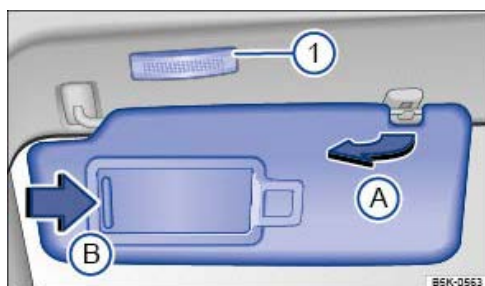

Fig. 118 In the front headliner: sun visor.
- Pulled out of the bracket and swung over towards the door → *Fig. 118* .
There is a vanity mirror behind a cover on the inside of the sun visor. When you open the cover → *Fig. 118* , a lamp → *Fig. 118* lights up.